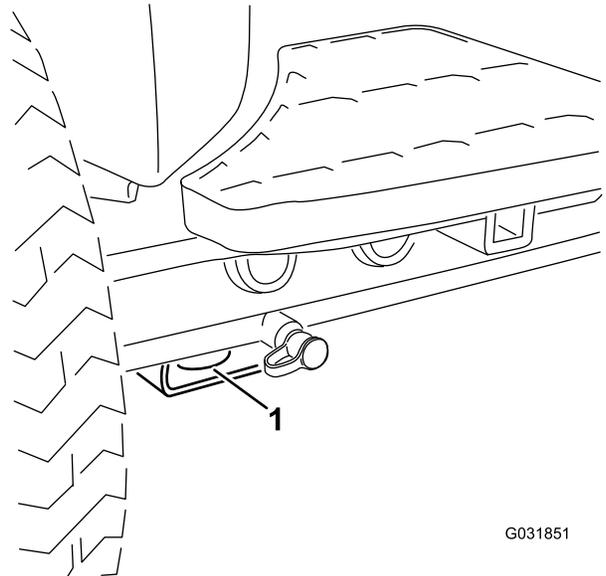

Figure 70
- Front—the hole in the rectangular pad, under the axle tube, inside each front tire (Figure 70)